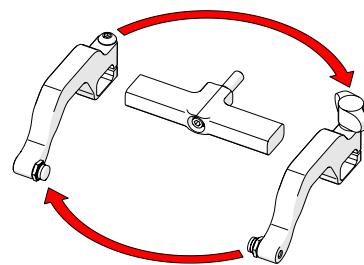

Fig. 130 - Reverse position around yoke
14. Position removed arms to opposite sides of the yoke (Fig. 130).